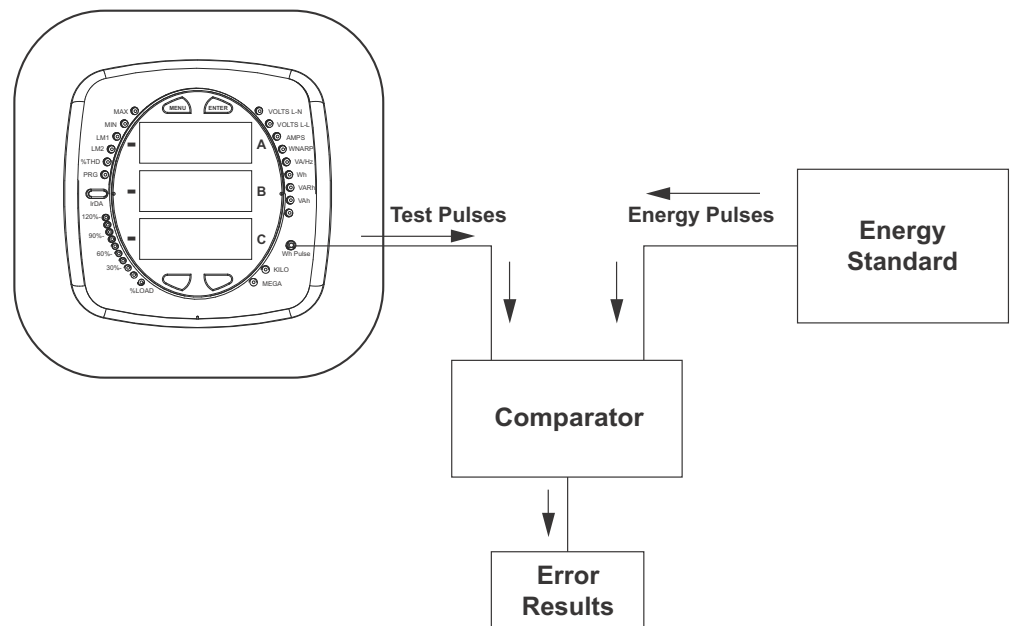

Figure 7-5: Using the Watt-hour Test Pulse
- Refer to Figure 7.5 for an illustration of how this process works.